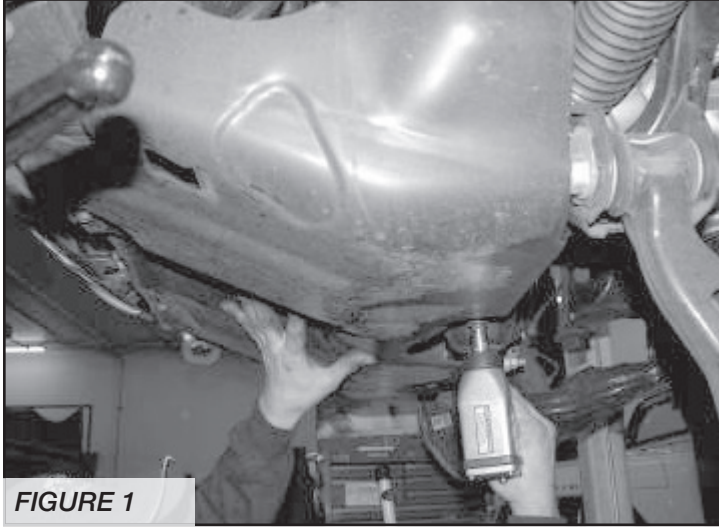

FIGURE 1
2. Locate and remove the factory skid plate. **SEE FIGURE 1**